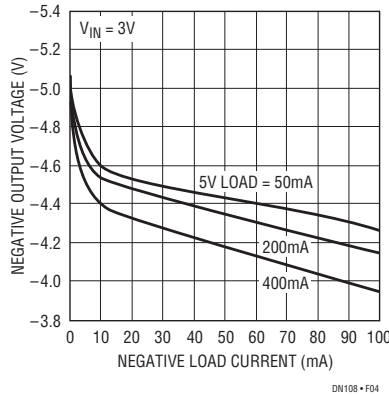
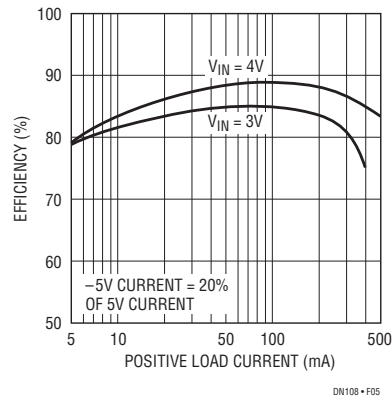

Figure 4. -5V Regulation
Figure 5. Dual Output Efficiency
-5V supply which is only quasi-regulated due to diode drop and switch saturation losses. Figure 4 shows the regulation of the negative output for various positive output load currents. As shown in Figure 5, the dual output converter has high efficiency over two decades of load current.